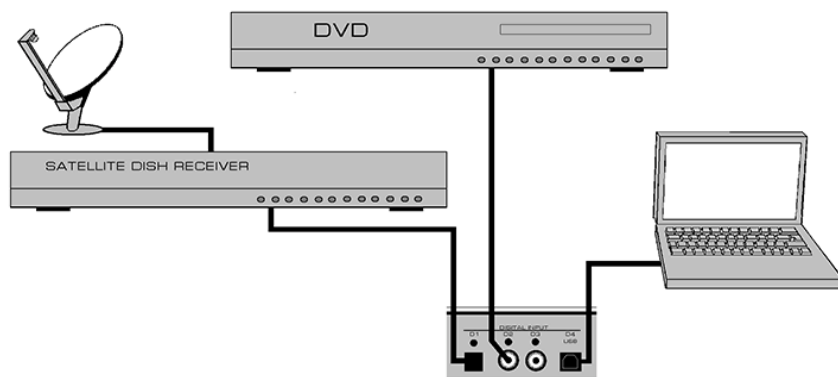

Figure 2: Nëo 340i Optional Digital Inputs – connection examples
There are two (2) different settings available for setting the resistive load; 100Ω and 47kΩ which are represented by jumper sockets R12 for the left channel and jumper socket R29 for the right channel (refer to figure 2 – section labeled "LOADING"). The factory default setting is 47kΩ, therefore both jumpers will be found in each of the two left most sockets.
There are two (2) different settings available for the capacitive load; 0pF and 100pF which are represented by jumper sockets C9 for the left channel and jumper sockets C17 for the right channel (refer to figure 2 – section labeled "LOADING"). The factory default setting is 100pF for a moving magnet cartridge, therefore both jumpers will be found in each of the two right most sockets.
There are two (2) different settings available for gain level. They are 40dB for MM cartridges and 60dB for MC cartridges, which are represented by jumper socket J18 for the left channel and jumper socket J24 for the right channel (refer to figure 2 – section labeled "GAIN"). The factory default setting is for a MM cartridge, therefore both jumpers will be found in each of the two right most sockets labeled MM; ***It is highly recommended that you do not use the jumpers labeled MC for an MM cartridge as this will overload the 340i.*** When using a MC cartridge, you should insert the supplied jumpers into each of the two left-most sockets labeled MC.
The rear panel will look similar to Figure 2 (above). There are four (4) pairs of single-ended analog inputs on RCA connectors labeled CD, A1, A2 and A3/P. The RCA input and output connectors on the rear panel have been color coded: 'white' for the left channel and 'red' for the right channel. If your **Nêo 340i** is equipped with the *optional phono section*, the input labeled 'A3/P' must be used to connect your turntable interconnect leads to this integrated amplifier. If you don't have the optional phono section installed, then this input can be used in the same way as the CD, A1 and A2 inputs.